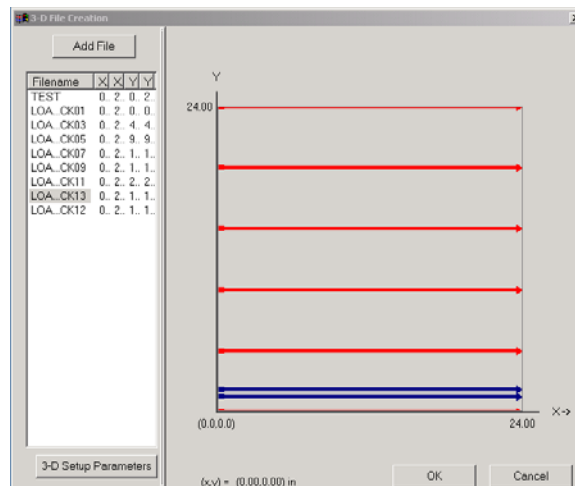

Figure 142: Example of non-regularly spaced profile lines.
**Non-regularly spaced profile lines:** Figure 142 shows an example with non-regularly spaced profile lines. In this case the user has specified a regular grid, then added two very-closely spaced profile lines, which are shown in the figure as blue lines.